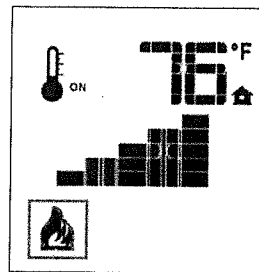

Figure 7.8 Flame Level 5.
- The Up Arrow Key will increase the flame height each time it is pressed. If the Up Arrow Key is pressed while the system is on but the flame is off, the flame will come on in the High position. Figs. 7.8 - 7.9. A single "beep" will confirm reception of the command.